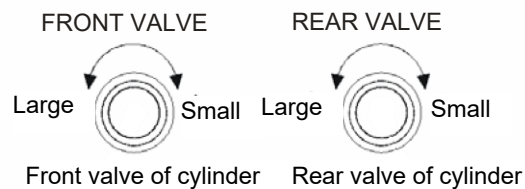

Figure 1
- (1) Connect the air source and slide the air inlet collar towards the machine.
- (2) Check whether the air pressure meter is in the specified range (roughly reading in the “12-3 o’clock” range). If not, draw the air pressure knob outwards to unlock, rotate the pressure regulator until the pressure is in the specified range (0.4-0.5Mpa) and push the knob back in to lock.
- (3) Use the Auto/Semiauto switch to set the filler to the desired operation method.
- (4) To make an adjustment, you can loosen the locking handle on the adjustment sensor, rotate the handwheel, take note of the value on the position display and fasten the handle.
- (5) Adjust the front valve (for adjusting drawing speed) and behind valve (for adjusting filling speed) as shown in Figure 1 to get reasonable drawing and filling speed.